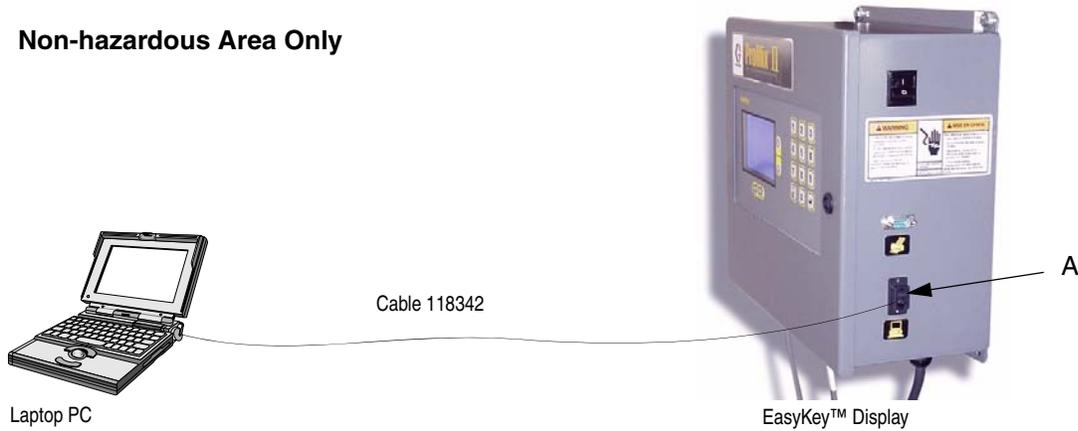

FIG. 1
Connect RS-232 cable 118342 between the EasyKey™ Display connector (A) and your PC COM1 port. See FIG. 1.